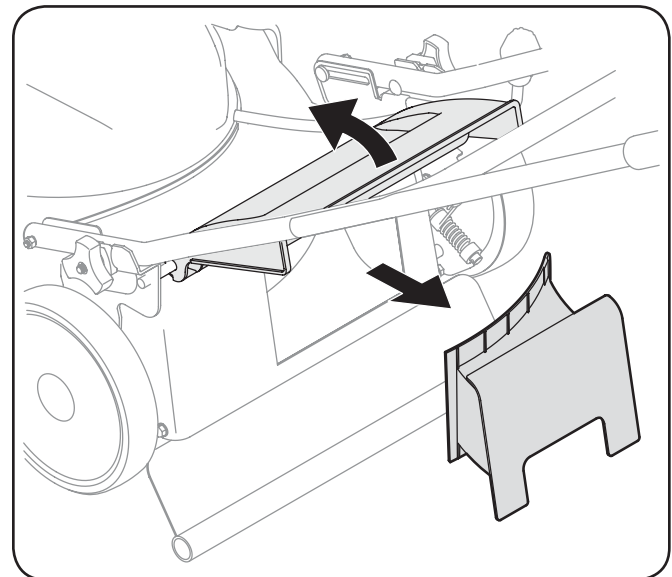

Figure 3-9
- b. Remove rear mulching baffle. See Fig. 3-9.